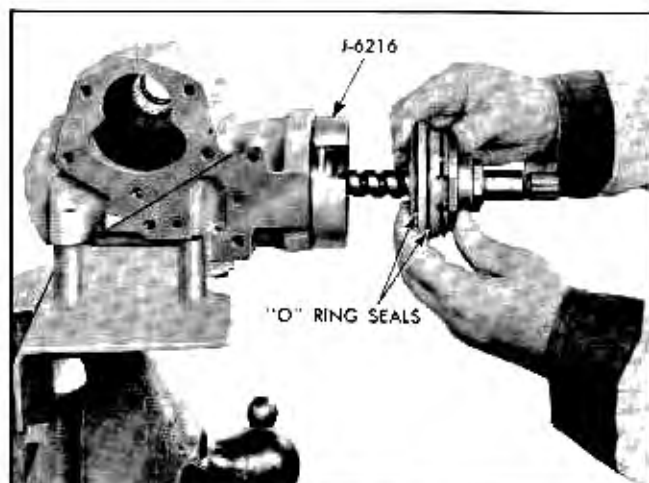

Fig. 9-59 Replacing Rack-Piston
1. Lubricate 2 large "O" rings and install on adapter (Fig. 9-59).